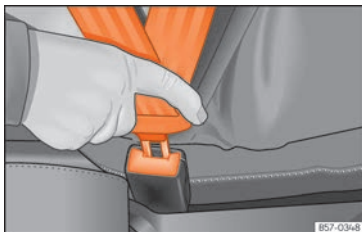

Fig. 11 Insert the latch plate of the seat belt into the buckle.
- Engage the latch plate in the buckle of the corresponding seat » » » Fig. 11.